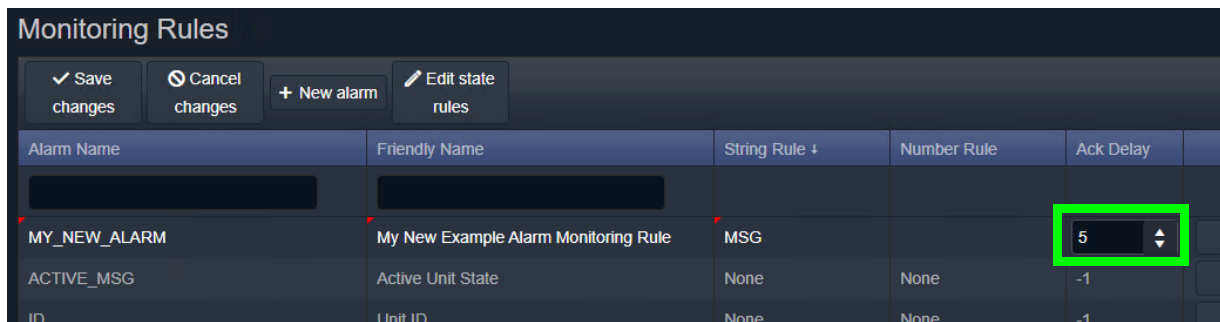

Figure 66: Select an Ack Delay Figure (seconds)
- 5 If an auto-acknowledge is required, set the timeout period (**Ack Delay** figure in seconds, -1 = no auto-acknowledge). See Figure 66.